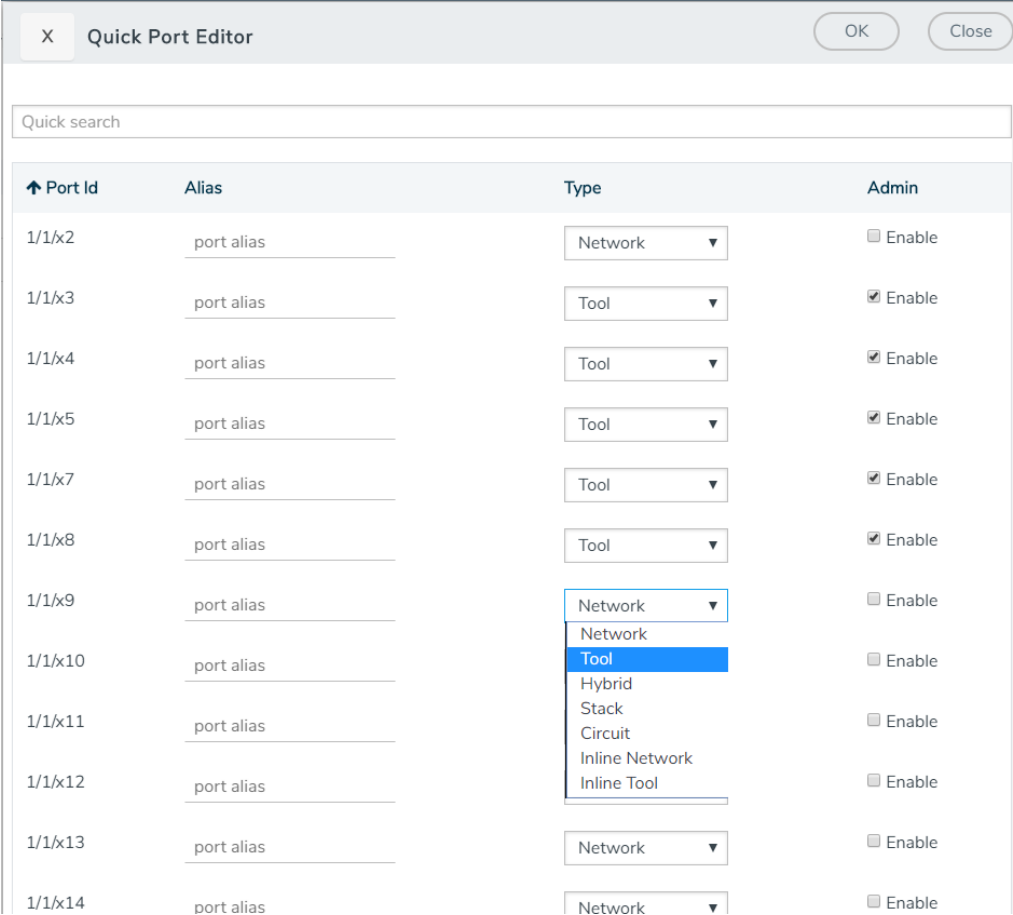

Figure 10 Port Type Selection
- 2. For each port on which you want to set the port type, select the type from the drop-down list. In Figure 10 Port Type Selection, port 1/1/x9 is being changed from a network port to at tool port.